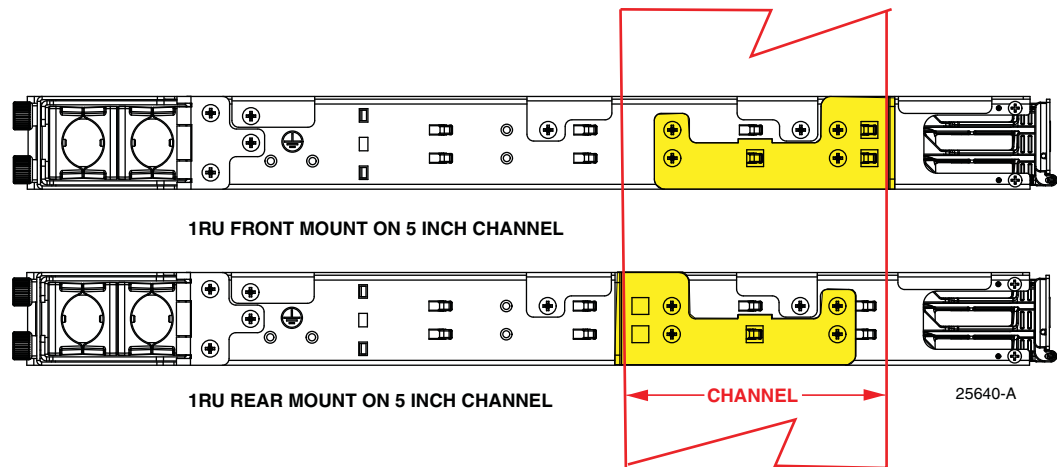

Figure 14. 1RU Mounting Bracket Positions (Front and Rear on 5-Inch Channel)
- Figure 14 for 1RU mounting on a 5-inch channel; or